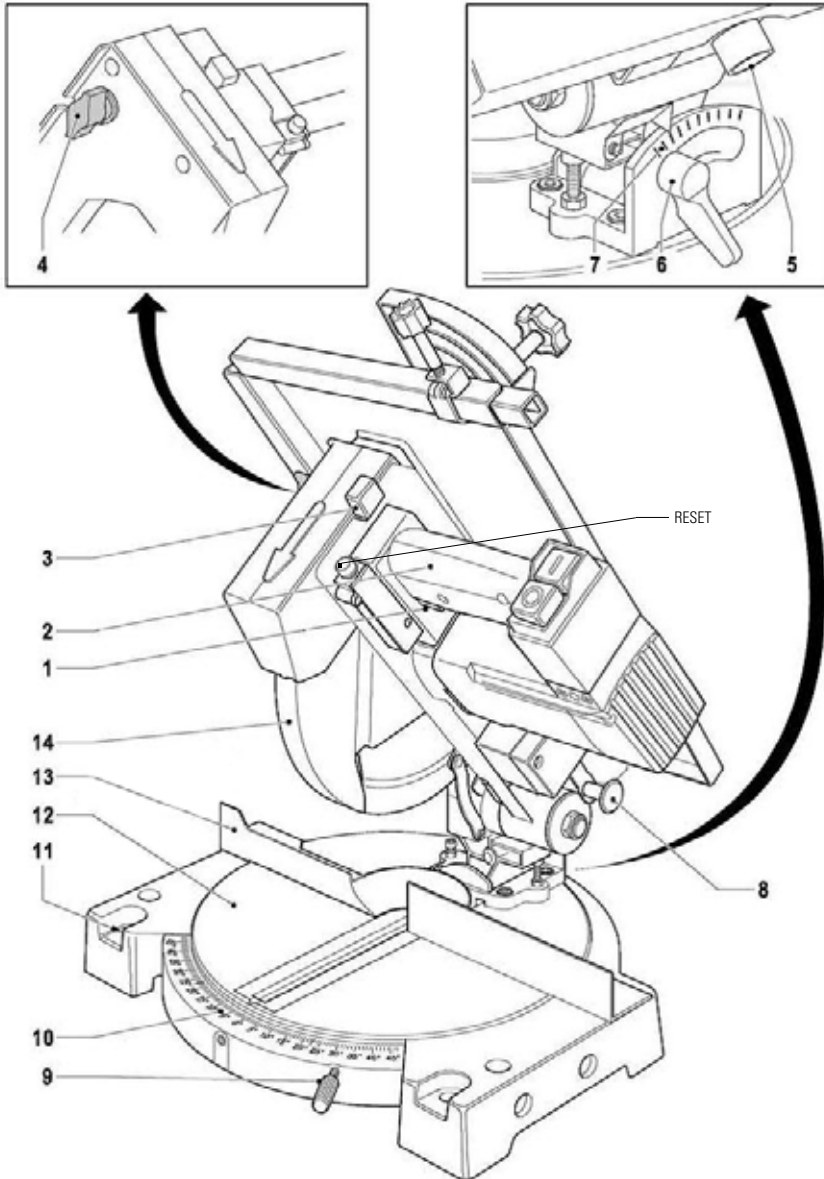

FIGURE 7.1
SAW TABLE MODE - FIGURE 7.1
- A. Place the lower guard (14)
- B. Press the miter lock knob (1)
- C. Move the table (16) downwards
- D. Push the head lock down knob (8)
- E. Loosen the screw (15)
- G. Tighten the screw (15)
3. Adjusting the sawing angle 90° - Figure 7.1 and 8.3
- Loosen the lock knobs (9).
- Set the required mitre angle using the scale (10).
- Tighten the lock knobs. Figure 7.1.
- Loosen the lock knob (6).
- Set the required bevel angle. The setting can be read from the scale (7).
- Tighten the lock knob. Figure 7.1.